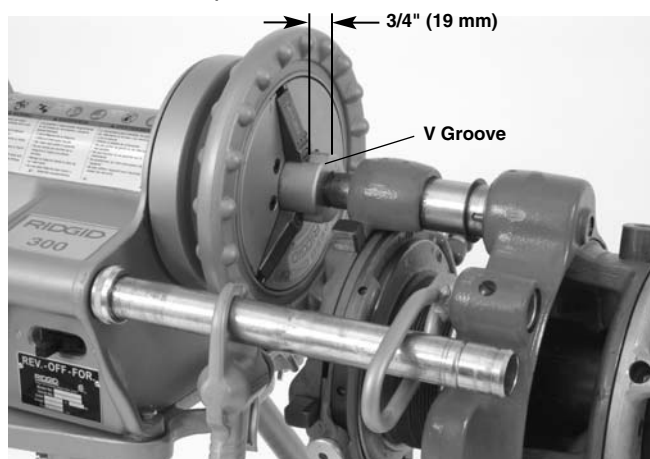

Figure 12 – Locating Drive Bar To Allow Oiling Space
2. Use appropriate equipment to lift the geared threader and place over the end of the pipe orienting one jaw of work-holder upward. Lifting by hand must be done by at least two people utilizing the carrying handles. Be aware that the 141 weighs 93 pounds (42 kg) and the 161 weighs 158 pounds (72 kg). Leave approximately $\frac{3}{4}$ " (19 mm) of the drive bar exposed in front of the chuck to allow space for oiling (Figure 12). Securely tighten chuck jaws into three "V" shaped grooves in the head of drive bar. Close the rear centering head onto drive bar. Make sure that the geared threader and power drive are stable and secure.
3. Use appropriate equipment to lift the geared threader and place. Lifting by hand must be done by at least two people utilizing the carrying handles, be aware that the 141 weighs 93 pounds (42 kg) and the 161 weighs 158 pounds (72 kg). Leave approximately $\frac{3}{4}$ " of the drive bar exposed in front of the chuck to allow space for oiling (Figure 12). Securely tighten chuck jaws into three "V" shaped grooves in the head of drive bar. Close the rear centering device onto drive bar. Make sure that the geared threader and power drive are stable and secure.